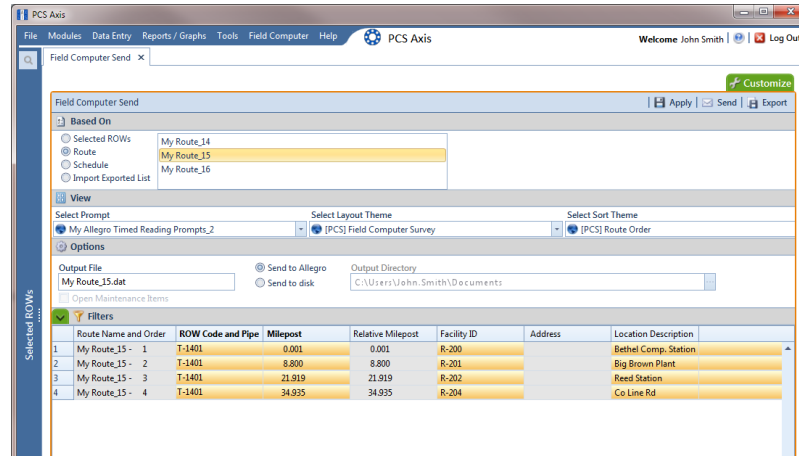

Figure 8-27. Field Computer Send
- 17 Click the **Route** option and select a route in the selection box. Then click  **Apply** to update the grid (Figure 8-27).